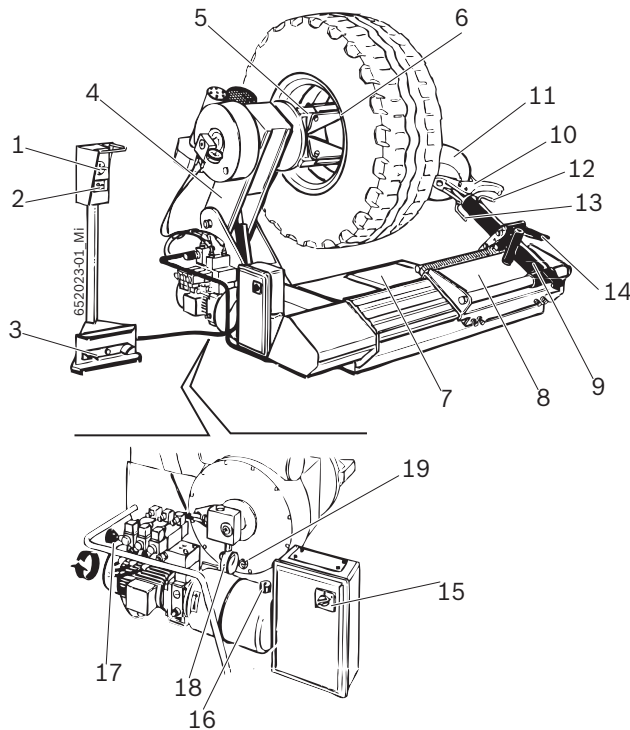

Fig. 1: TCE 5210
The locking flange is driven by the high pressure hydraulic circuit, adjustable from 20 to 130 bar by turning the dedicated knob (Fig. 1, pos. 17) and reading the value on the manometer (Fig. 1, pos. 18). The normal working pressure is 130 bar. For weak or particularly thin rims it is necessary to decrease this pressure.
For wheels having a diameter of less than 800 mm or more than 1500 mm, it is suggested to take off the mounting tool pin (Fig. 1, pos. 12) and put it in the second hole.